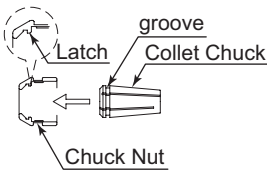
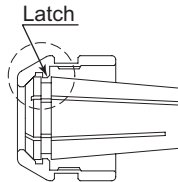
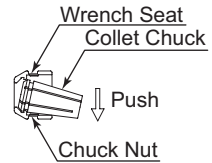
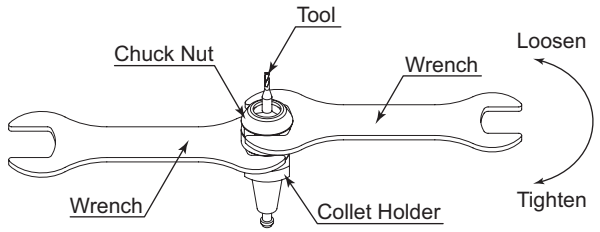

Fig. 3
Fig. 4
Fig. 5
Fig. 7
- ① Attach the chuck to chuck nut, and be sure to fully engage the latch inside the chuck nut to the groove on the collet chucks outer circumference area. (Fig. 3, Fig. 4) (Install the collet chuck in the chuck nut by positioning the collet chuck in the chuck nut and pressing down on flat surface. (Fig. 5))
- ③ Insert the tool in to the collet chuck and position the wrench on the collet holder. Position the wrench on the chuck nut, then tighten the chuck nut by turning clockwise. (Fig. 7)
- ④ When removing the tool, set the wrench on the chuck nut and turn it counterclockwise to loosen the collet chuck and remove the tool. (The first turn will loosen the chuck nut, but the tool will not release and turning will become stiff. Keep turning through the stiffness and the collet chuck will open.)
- ⑤ When removing the collet chuck, the collet chuck and chuck nut are secured by a groove in the collet chuck and a flange in the chuck nut. To remove the collet chuck hold the chuck nut in one hand and push diagonally down on the collet chuck. The collet chuck should be released. (Fig. 5).